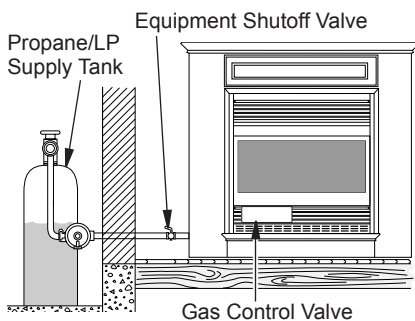

Figure 26 - Checking Gas Joints (Propane/LP Only)
3. Check all joints from gas meter to equipment shutoff valve for natural gas or propane/LP supply to equipment shutoff valve for propane/LP (see Figures 26 or 27). Apply noncorrosive leak detection fluid to all joints. Bubbles forming show a leak.
4. Check all joints from equipment shutoff valve to gas control valve (see Figures 26 or 27, page 19). Apply noncorrosive leak detection fluid to all joints. Bubbles forming show a leak.